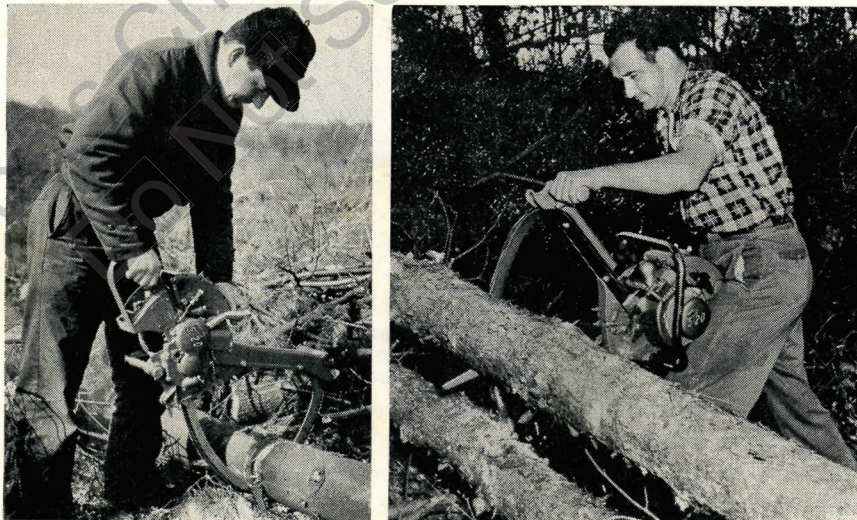

Figure 8—Plunge Cutting With Bow Attachment
(1) Pivot action (the same as with a straight blade) is used when cutting with the bottom edge. Hold the saw spikes against the wood at the start, then pivot the bow into the wood.
(2) Plunge cutting action is used with the forward section of the bow. (See figure 8.) Place the plunging spur against the side of the tree or log. Push the saw straight into the wood or use a slight pivoting action. When logs are lying on the ground, push the spur into the dirt, then pivot the chain into the log. This will keep the log from rolling with the chain. The slight curve of the bow permits cutting right down to the ground. Be careful, however, not to let the chain run into the ground.